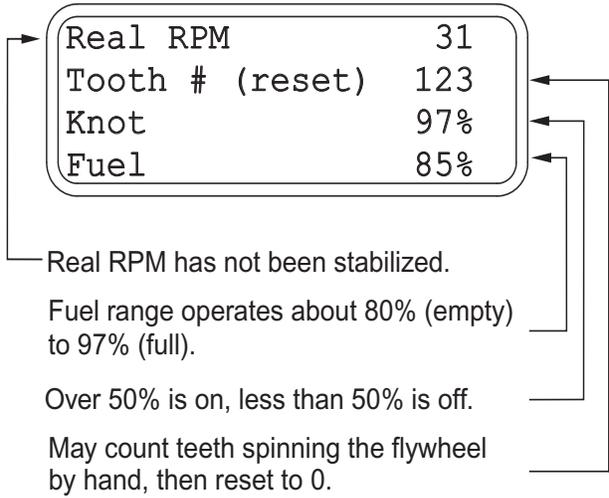

Figure 14 - Sensor Troubleshooting Screen
- Sensor Trouble Shooting (see Figure 14)